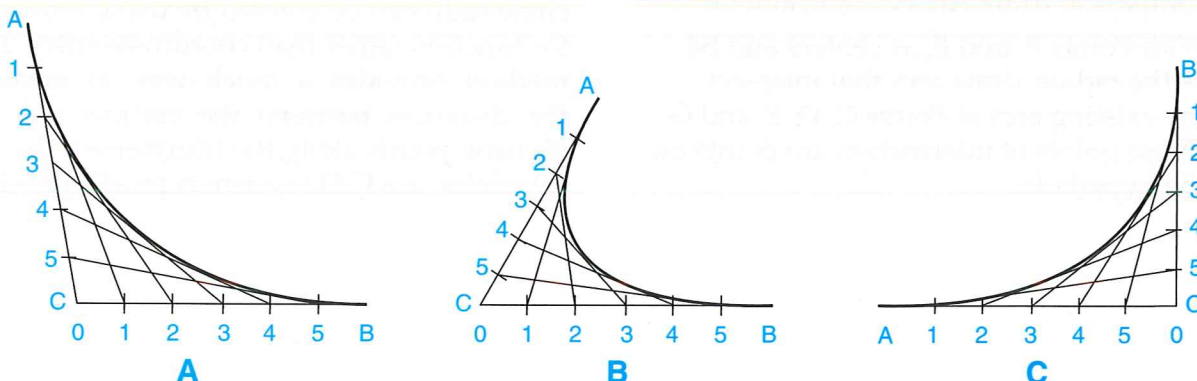

Figure 7-17. Using the tangent method to construct a parabola when two points are given (using an assumed third point).
1. Points A and B are given, **Figure 7-17**.